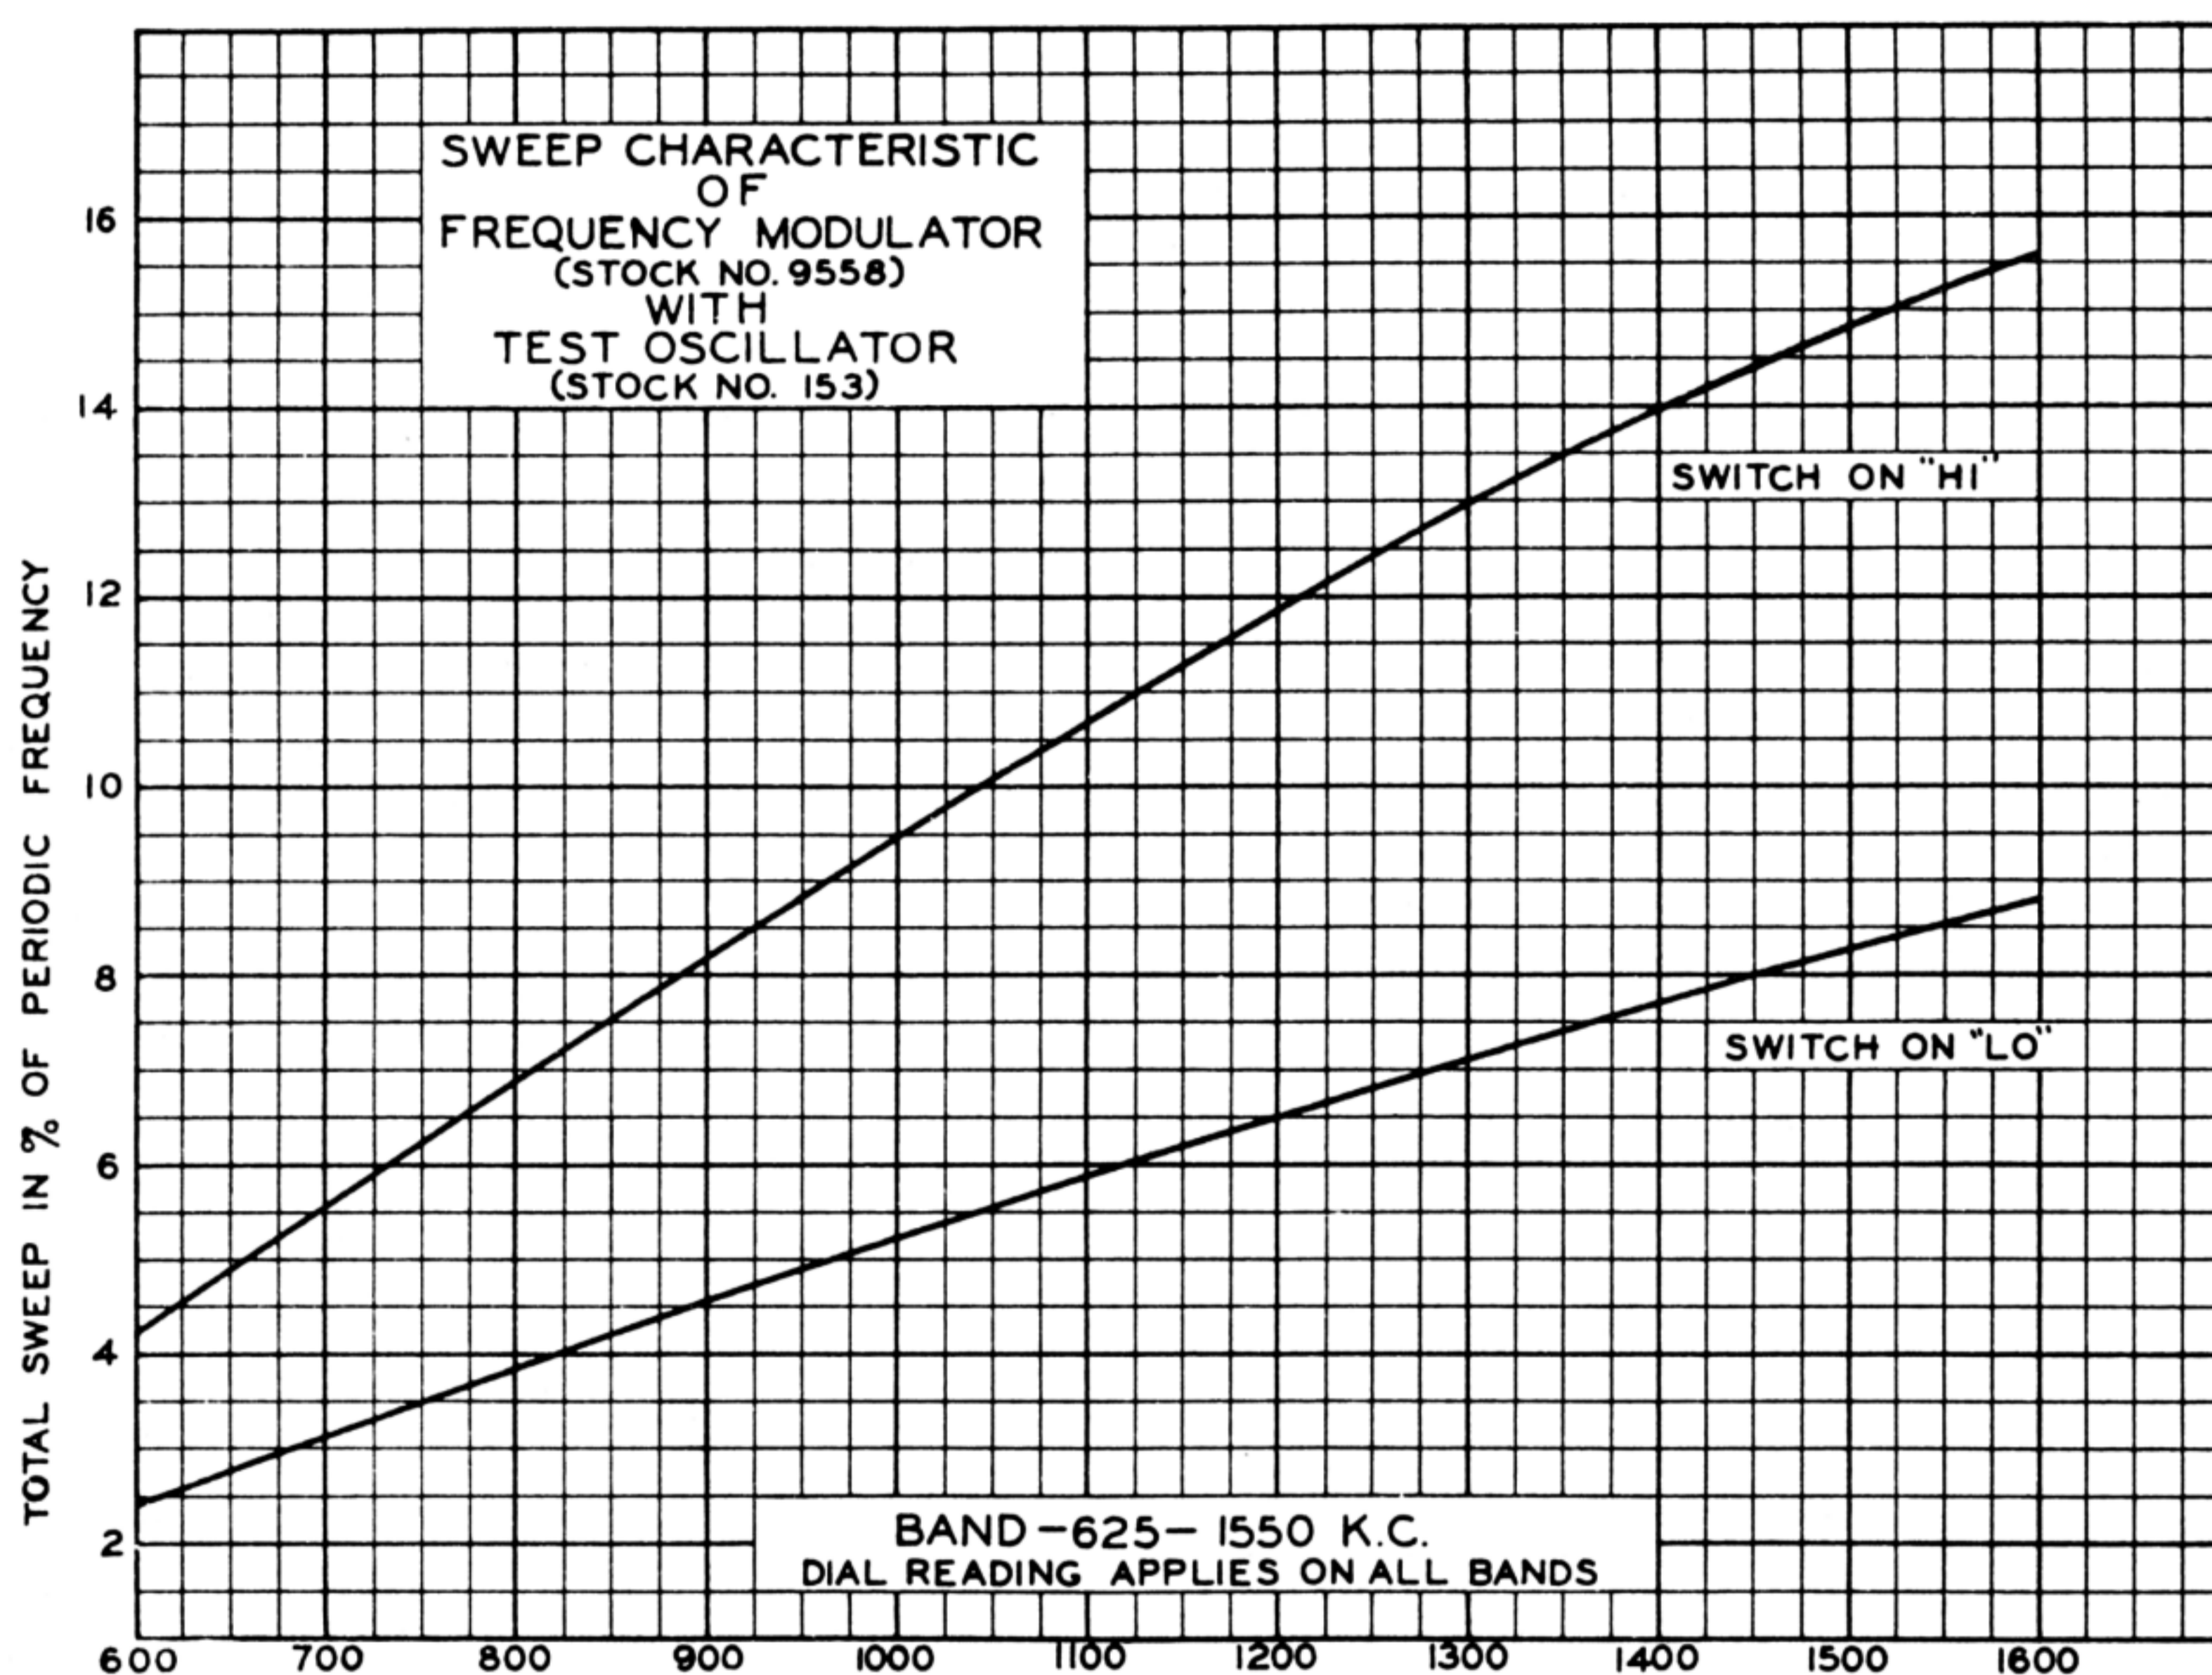

Figure 3—Sweep Characteristics, Using Stock No. 9558 Frequency Modulator
**Oscillograph Test.**—In order to interpret the results properly when using a cathode-ray oscillograph for receiver alignment, it is necessary to know the frequency range through which the circuit under adjustment is being swept. This range may be determined readily by reference to Figure 3 which shows the percentage of sweep for any dial setting. Since this information is presented as a single curve for each value of sweep capacitance, any dial setting referred to Figure 3 should be read upon the reference band (625-1,550 KC), irrespective of the band being used.